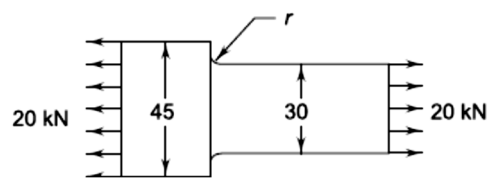

Figure 1
- iii. A plate, as shown in figure 1 is subjected to a tensile load of 20 kN. **5** 03 01 01